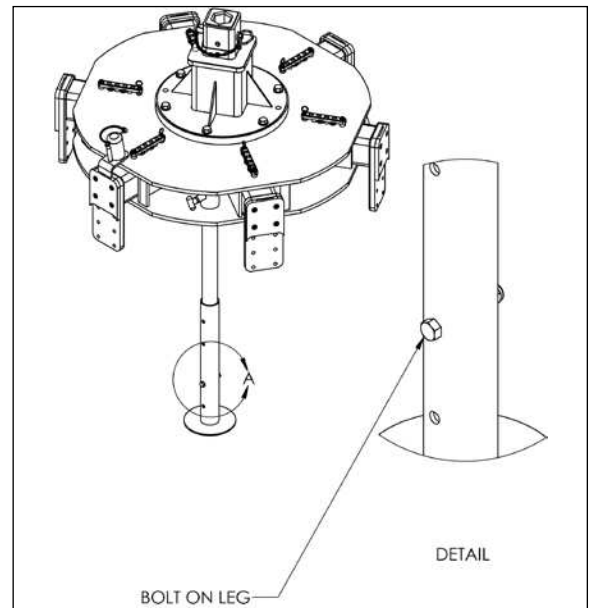

Figure 7. Loosening Bolt On Supporting Leg
4. If using the Standard Guide Shaft Platinum Series 39" [K-MM0512], proceed to Step 5. If using the Extended Guide Shaft Platinum Series 51" [K-MM0513], the Supporting Legs will need adjusted to the lowest height. Loosen and remove the nut and bolt from the base of the Supporting Leg and extend it fully. Then replace and tighten the nut and bolt. Repeat for each leg. See Figure 7.